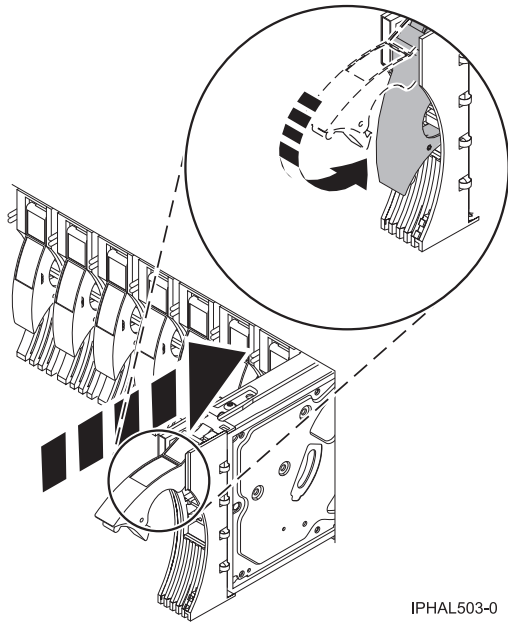

Figure 96. Installing a disk drive in a model or 7311-D20
7. Push the disk drive handle in until it locks, as shown in Figure 96 on page 113.